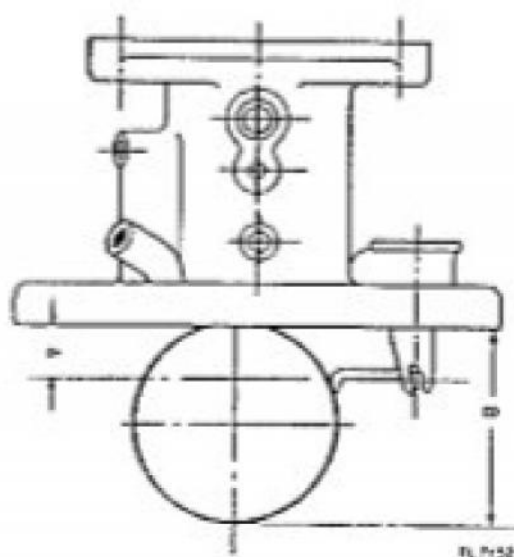

Figure 10. Carburetor fuel level and float setting dimensions (A and B respectively).
(9) *Fuel level.* (a) Correct setting of the float which controls the fuel level is of utmost importance. (See fig. 10.)